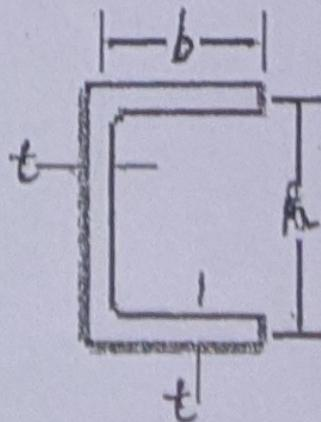

Fig 1
4. What is shear flow? Determine the shear center of the given section as in Fig.1.